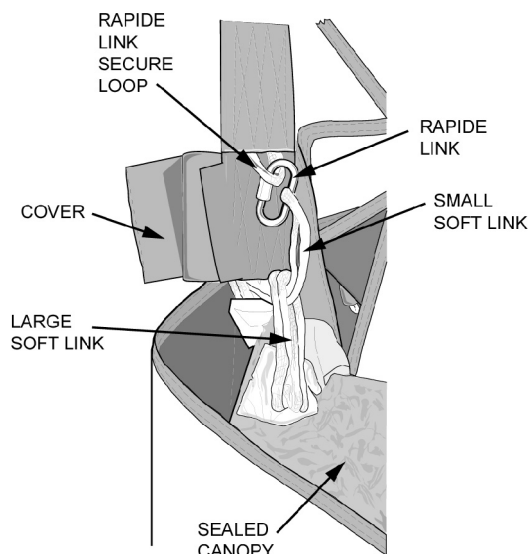

Figure 9. Rapide Link
a. Using 5/16-in. wrench, break loose nut on Rapide link and back it off (Figure 9).
d. Torque Rapide link to  $10 \pm 2$  in-lbs (value has been computed already). (QA)